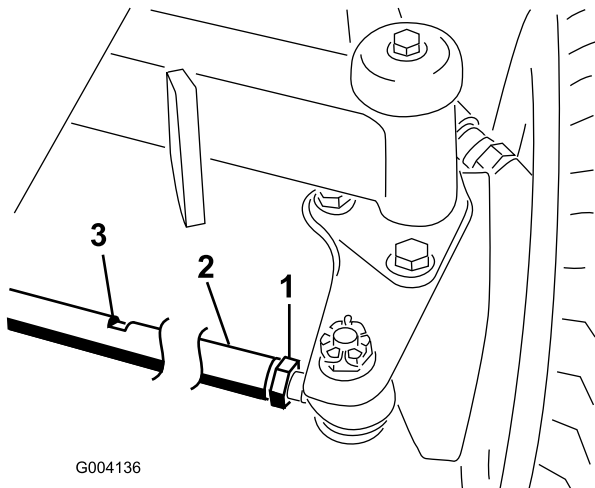

Figure 64
2. Loosen the jam nut on each end of the tie rod (Figure 64).